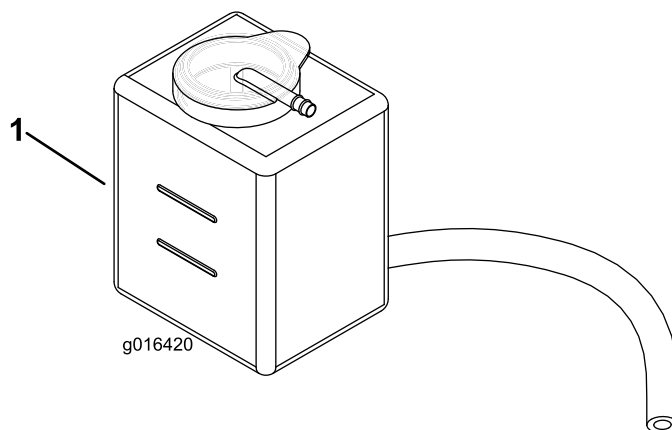

Figure 25
2. Check the coolant level (Figure 25). It should be between the lines on the reserve tank when the engine is cold.